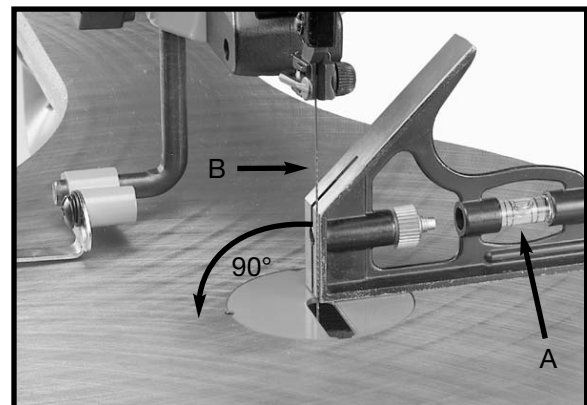

Fig. 21
2. Using a square that includes a level, check to see if the table is level (A) Fig. 21, and is 90° to the saw blade (B), as shown.